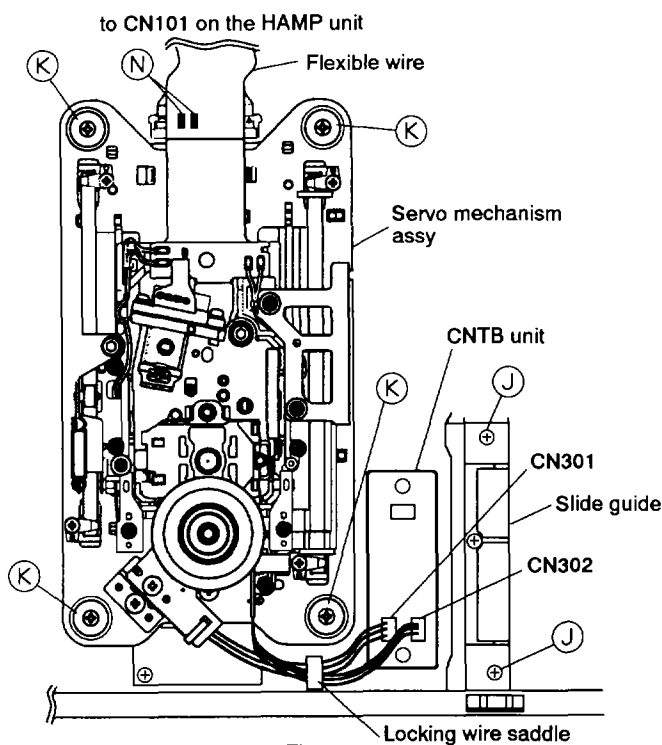

Fig. 5
• Disassembling the Servo Mechanism Assy (Fig. 5)
2. Remove the two screws (J) to remove the slide guide.
3. Remove the four screws (K) fixing the servo mechanism assy.
* Note : When removing the flexible wire, (N) portion in the figure is sure to short-circuit with the solder (Fig. 5).